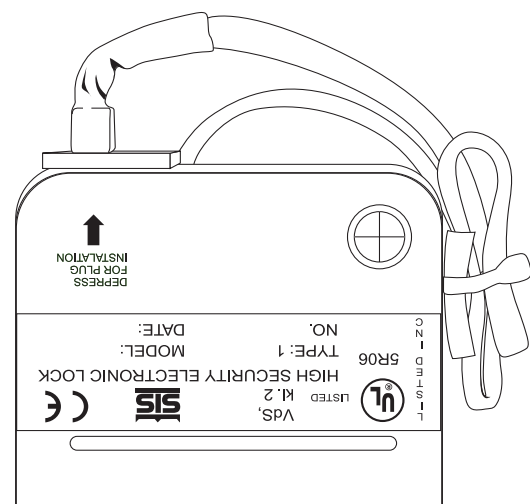

Figure 13
- 4). Secure entry cable with tywrap, making sure that any extra cable is in a safe position and cannot be damaged by any moving parts or sharp edges, see *Figure 13*.